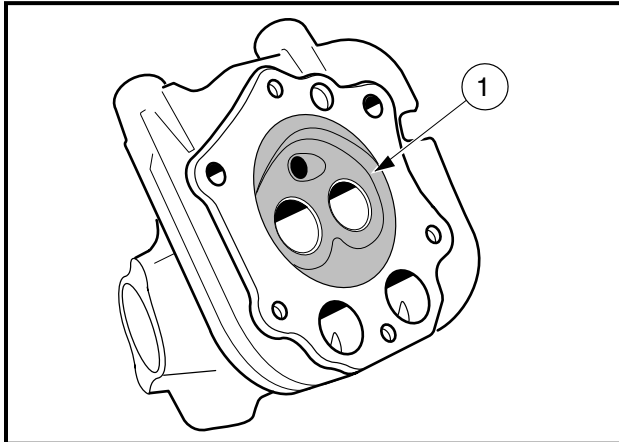

Figure 3-13 Combustion Chamber
- Smooth out any damaged spots in the combustion chamber (1) using a small grinder. Sharp edges in the combustion chamber may cause pre-ignition. Do not remove any more material than is necessary or change the shape of the combustion chamber (**Figure 3-13, Page 3-10**).